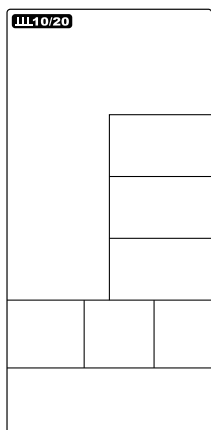
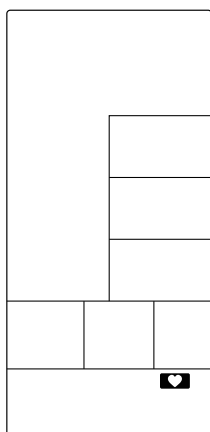

Figure 4
Figure 16
2. The window of **INTERVAL10/20** **INTERVAL10/20** **INTERVAL CUSTOM** **READY** **WORK** **RESET** **TIME** **DISTANCE** **CALORIES** **WATT** **SPEED** **RPM** and  will flash by sequence in every 1s (Figure 4~Figure 16).